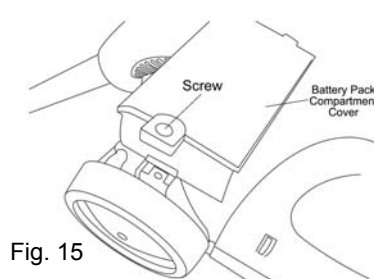

Fig. 15
2. Turn unit over so that the base is facing upwards. (Fig. 15)